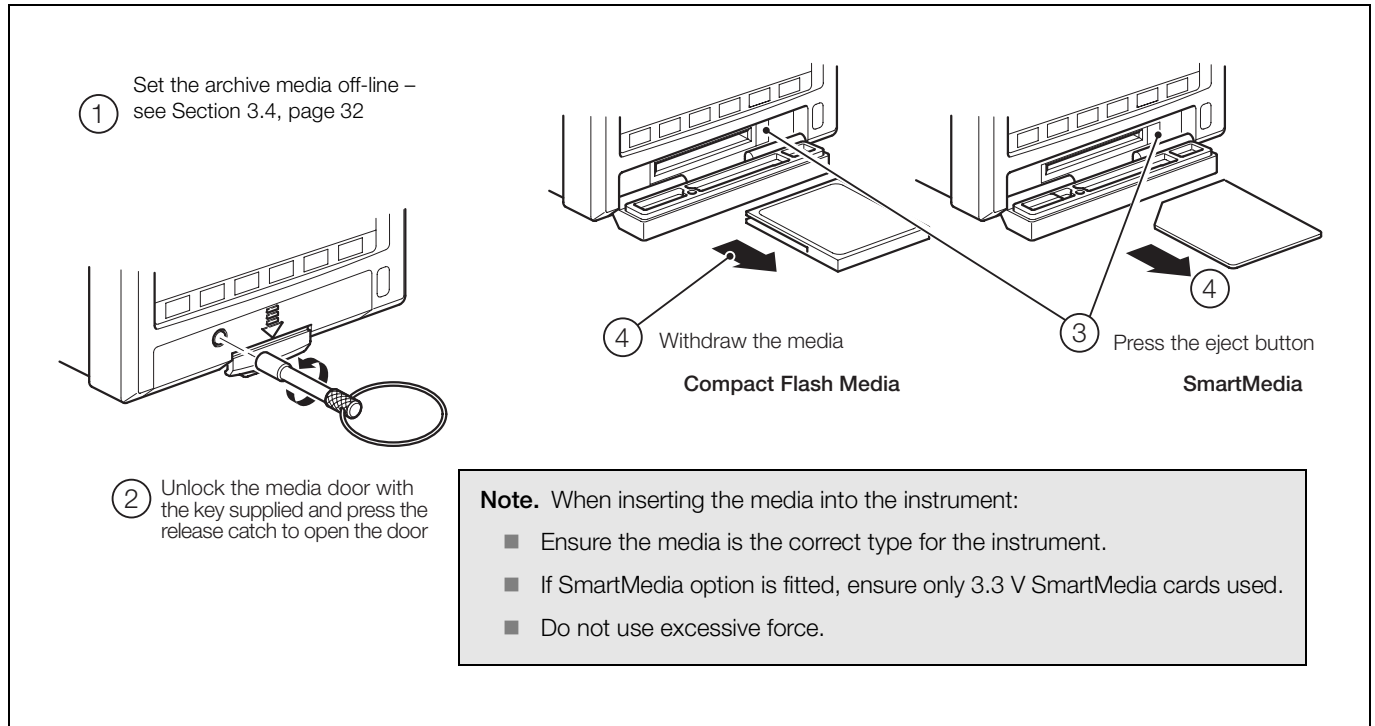

Fig. 3.4 Inserting and Removing External Media
3.5.3 Inserting and Removing Media – Fig. 3.4